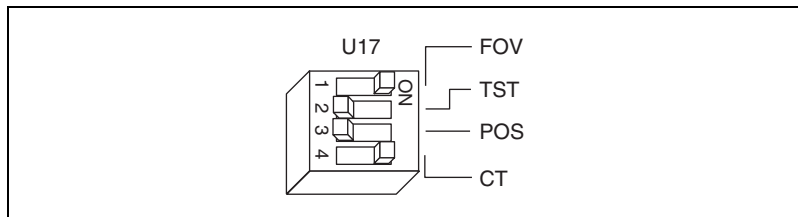

Figure C-2. Restoring the Factory Configuration
3. Change switch 1 (FOV) on U17 to the ON position as shown in Figure C-2 to restore the factory configuration.